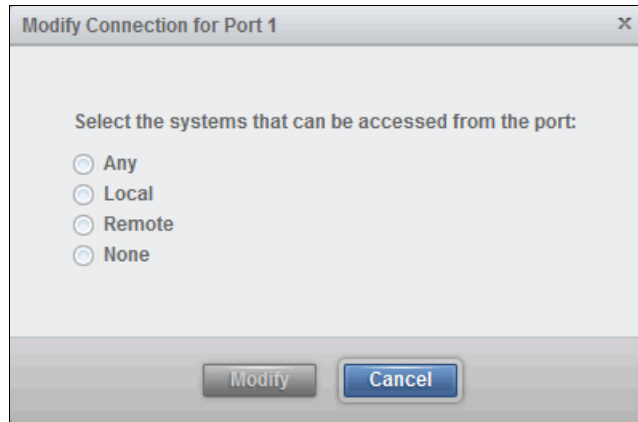

Figure 4-41 Modifying Connection for Port 1
- To configure a port, right-click the port, and select **Modify Connection**. This should open the window shown in Figure 4-41.